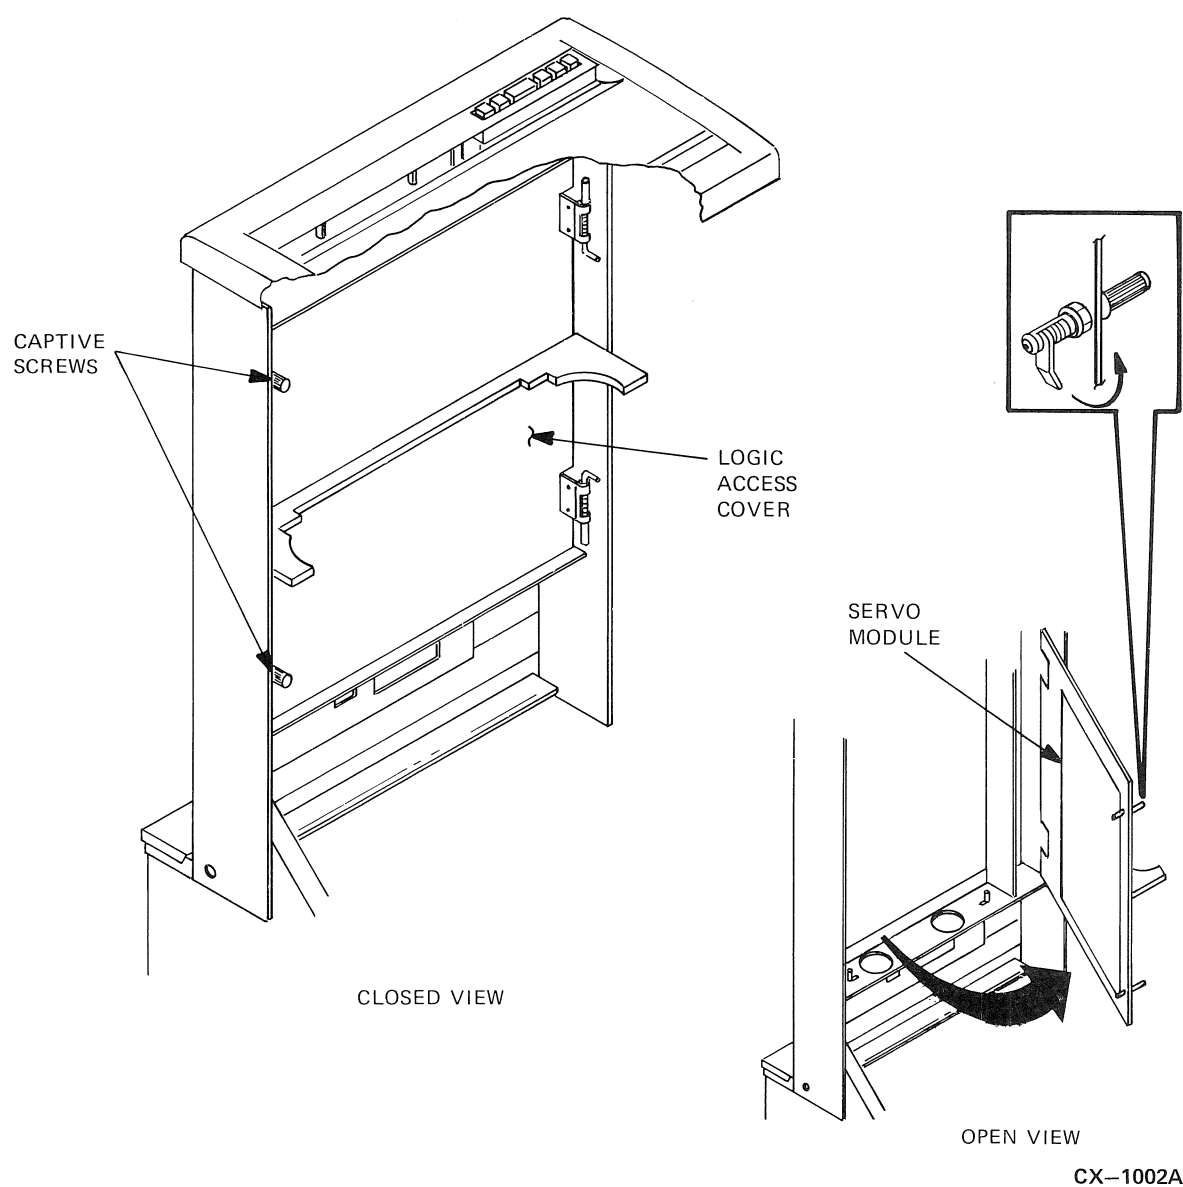

Figure 3-14 Opening the Logic Access Cover
10. Unlock the logic access cover by manually turning the two captive fastener assembly screws several turns counterclockwise. Release and tighten these screws by hand only. Refer to Figure 3-14.
13. Return the logic access cover to its original closed position. Lock the two captive fastener assembly screws by manually turning them clockwise. Make sure the logic access cover is securely locked in place. Refer to Figure 3-14.
3. Unlock the logic access cover by manually turning the two captive fastener assembly screws several turns counterclockwise. (Release and tighten these screws by hand only.) Refer to Figure 3-14.
4. Fold out the logic access cover (Figure 3-14).